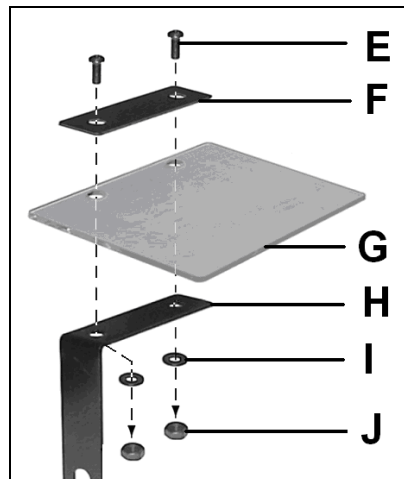

Fig 2
Use the bolts (A, Fig 2) and washers (B) and mount the tool rest (C) to the wheel housing (D).
Thread two screws (E, Fig 2) through the mounting plate (F), eye shield (G), mounting bracket (H) and washers (I), and fasten with nuts (J).